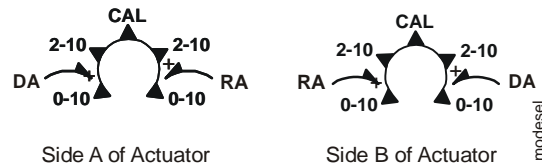

Figure 23: Mode Selection
Actuators have an external mode selection switch to calibrate, select input signal range, and reverse control logic. The switch is accessible from both A and B sides of the actuator as illustrated in Figure 23. Actuators are delivered in Direct Acting (DA), DC 0 to 10 V input signal mode. To change to Reverse Acting (RA) mode, move the mode selection switch from DA to RA. The input signal range is selectable between DC 0 to 10 V or DC 2 to 10 V. If the CAL function is not used, both input signal ranges are proportioned across the full rotation range of 0 to 100% rotation.